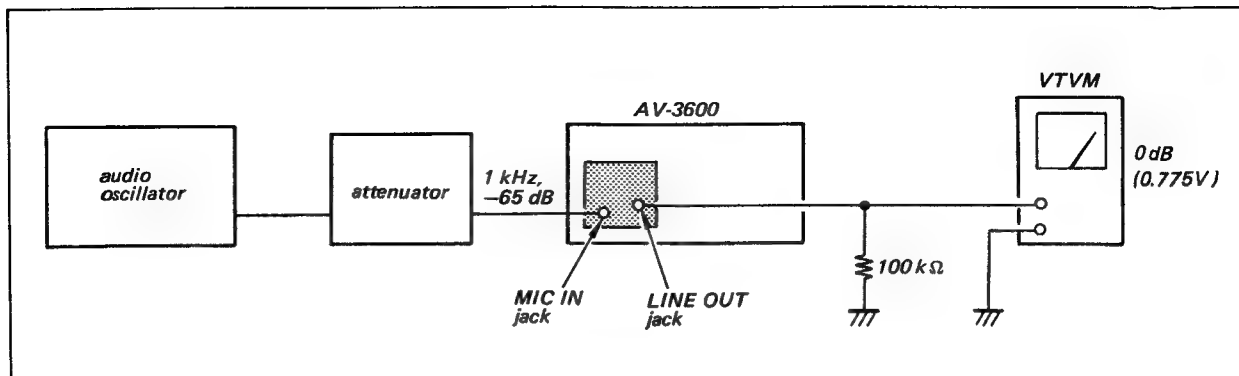

Fig. 7-3. Record level calibration set-up
Set-up: See Fig. 7-3.
1. Connect the VTVM to TP-502 using a 100 k Ω load resistor as shown in Fig. 7-3.